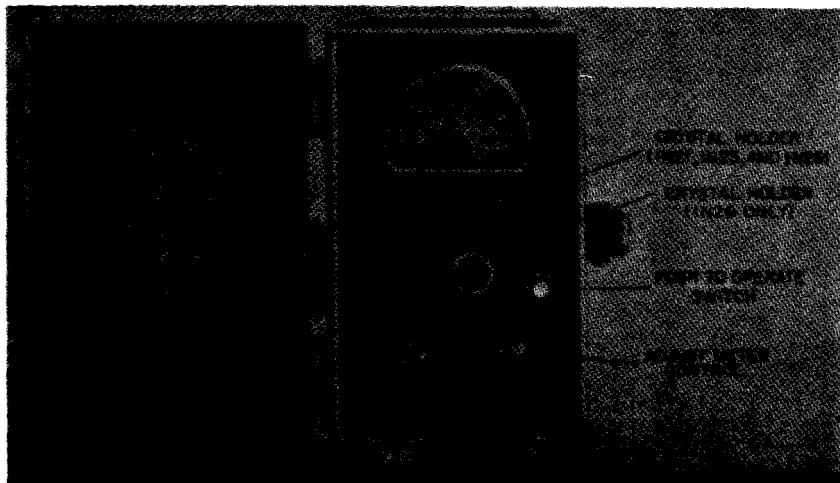

Figure 9.1. (Added) Crystal Rectifier Test Set TS-268E/U, front panel.
a. Crystal Rectifier Test * * * the front panel. Crystal Rectifier Test Set TS-268E/U, however, has two crystal socket holders on the front panel (fig. 9.1). All circuit components are mounted beneath this panel.
- (4) *Meter*. Provides a direct reading indication of the forward and backward resistance in kilohms, and the back current in milliamperes of the crystal under test. In addition, on all models except the TS-268E/U, there are a number (four or five, depending on model) of color-coded scales for a direct indication of the condition of the crystal. These scales establish the crystal as good or poor. With Crystal Rectifier Test Set TS-268E/U, the condition of the crystal under test is determined by comparing the current reading with the maximum allowable current values listed in the condensed summary of operating instructions inside the cover of the test set and in paragraph 31. The d-c resistance of the meter should be 100 ohms ± 2 percent.
c. *Crystal Holder*. Crystal Rectifier Test Set TS-268/U has a snap-in type crystal holder. Crystal Rectifier Test Sets TS-268B/U, TS-268C/U and TS-268D/U have insert type crystal holders. Crystal Rectifier Test Set TS-268E/U has two crystal holders. One holder is a snap-in type equipped with a trip lever to facilitate removal of crystals. The other holder is a coaxial type holder for testing 1N26 crystals only (fig. 9.1).